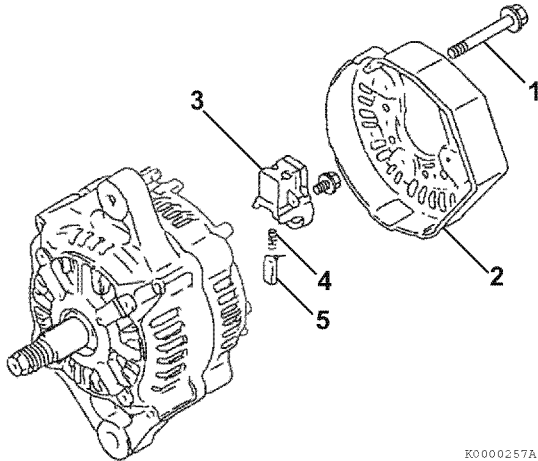

Figure 12-6
- Remove the three bolts (Figure 12-6, (1)) retaining the rear cover (Figure 12-6, (2)) to the rear frame assembly.
- Remove the brush holder (Figure 12-6, (3)). Remove the brush springs (Figure 12-6, (4)) and brushes (Figure 12-6, (5)).